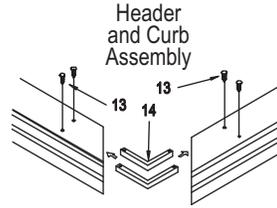

Figure 1
1. Add $\frac{1}{2}$ " to centerline measurements for outside dimension of curb (25). Cut to length. Mark location of curb on threshold with pencil so that curb may be placed back in same position later on.
2. Assemble header (24) and curb (25) using two 19/64 90-degree clips (33) into header and two clips (33) in curb. Using holes provided in header and curb. Then secure using eight #6 3/8" Screws (32). See Figure 1.
3. Leave curb in place temporarily. Set wall channels (15) into recess in curb. Hold plumb and mark for screw holes. Remove wall channels and curb. Drill 3/16" holes in wall using a 3/16" carbide tipped drill bit. Insert plastic screw anchors (16) into holes. Run a $\frac{1}{4}$ " round bead of silicone to the full length of the underside of curb, across miters, screw clips and fill each end of curb with silicone where curb will meet wall. Also silicone joint where curb or pan curb meets vertical wall, (in the area that will later be covered by metal curb).
4. Replace curb on threshold and apply silicone INSIDE OF CURB at miters, on the top of curb screws and at both walls. Replace wall channels and secure to walls using #8 x $1\frac{1}{2}$ " screws (17).
5. Insert two glass support blocks (26) in curb and set 90-degree panel glass (27) in place in curb and wall channel (smooth side of glass to inside). Hold panel in place by starting approximately six inches of the vertical seal vinyl (28) into the wall channel at top of the glass panel, both inside and out. Adjustments for out-of-plumb walls are accomplished by the movement of glass panel in and out of channels. For proper installation of vinyl for water tightness, the glass must extend at least $\frac{1}{4}$ " into channels.
6. Set corner post (30) in place over glass and into curb (fluted side of post next to the panel glass). Hold post in temporary position by securing at top with vertical seal vinyl (28) and at bottom by securing post to curb with #6 x 3/8" (21) on inside of curb on the door side.
7. Insert glass support block (26) in curb where in-line glass panel (34) will go.
8. Set in-line glass panel (34) in place (smooth side of glass to inside) and move all the way into corner post (30). Tack in place at top only with vertical seal vinyl (28).
9. Set in-line post (35) in position (Fluted Side Toward Fixed Panel) and move as far onto glass as possible. Tack in place at top with wall channel vinyl. To get door and panel to fit opening, your unit has 1" adjustment in fixed panel and 1" adjustment in door, $\frac{1}{2}$ " maximum at each point. Most installers prefer to take the maximum adjustment out of the stationary panel and the remainder out of the door. There are two things to consider when determining these adjustments. First, the glass of the fixed panel must go into the corner post and in-line post at least $\frac{1}{4}$ " at both sides. This is to ensure that the vinyl will hold the glass properly and provide adequate water protection. A good way to remember this is that the distance between the corner post and in-line post on stationary panel side can never be narrower than panel size minus $1\frac{1}{2}$ " and never wider than panel size minus $\frac{1}{2}$ ". For example, a 10" panel = $8\frac{1}{2}$ " minimum distance and $9\frac{1}{2}$ " maximum distance. Second, the opening for the door must be adequate. The curb and header filler (31) will help you determine this. Minimum length for header filler is door size minus $1\frac{7}{8}$ " and the maximum length is door size minus $\frac{7}{8}$ ". For example, for a D-1000-24, the minimum length of curb or header filler is $22\frac{1}{8}$ " and the maximum length is $23\frac{1}{8}$ ". However, if the adjustable latch jamb is used add 3/16" to these measurements, making the minimum length of curb and header filler for D-1000-24 = $22\frac{5}{16}$ " and maximum length = $23\frac{5}{16}$ ".